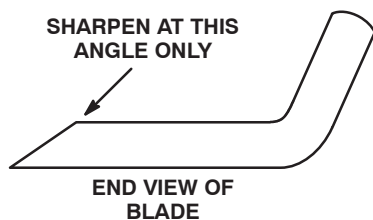

Figure 91
3. Examine the cutting edges of all of the blades. Sharpen the cutting edges if they are dull or nicked. Sharpen only the top of the cutting edge and maintain the original cutting angle to make sure of sharpness (Fig. 91). The blade will remain balanced if the same amount of metal is removed from both cutting edges.